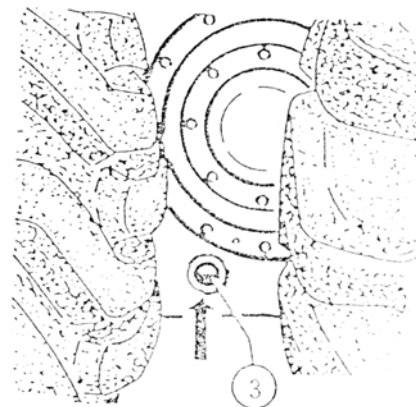

Fig. 33
1. The oil level must be in the middle of the sight glass (Fig. 33/3) I.e,max oil level.